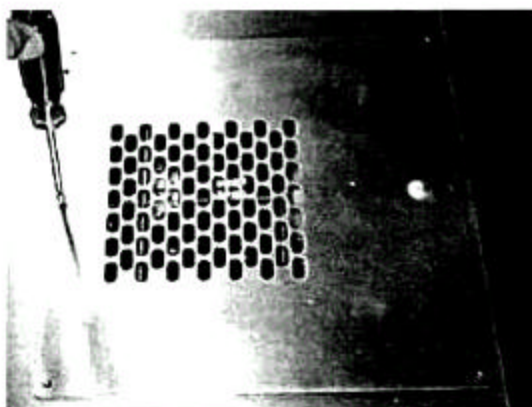

Figure 13A – Removable stack cover/fire damper
2. Remove and clean to bare metal the **removable stack cover/fire damper** and **fan section** with a clean dry cloth or absorbent paper towels (see Figure 13A and 13B).